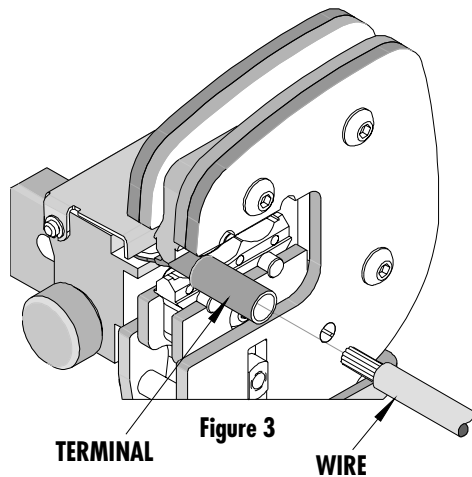

Figure 3
4. Insert the properly stripped wire into the terminal barrel. See Figure 3 and 4.